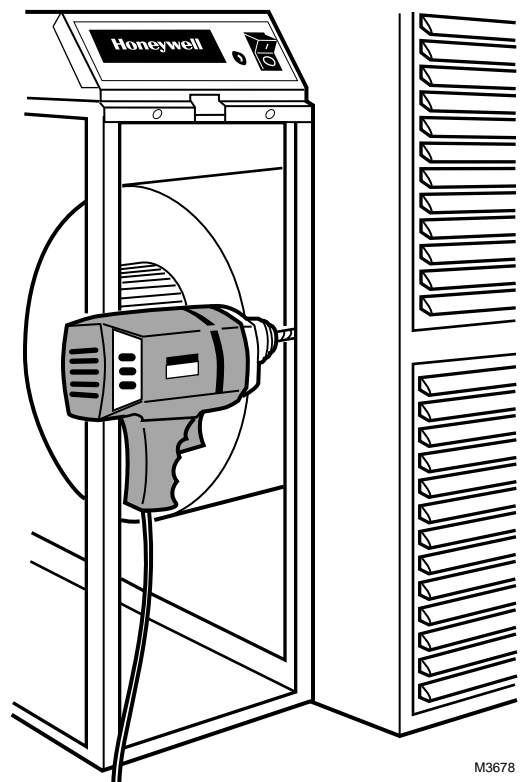

Fig. 6. Fasten cabinet to furnace.
- ❑ Attach the cabinet securely to the furnace. The unit can be attached directly, as shown, or a starting collar can first be fitted in the furnace opening. Either drill holes and fasten with sheet metal screws or rivets, or use slip joints. See Fig. 6.